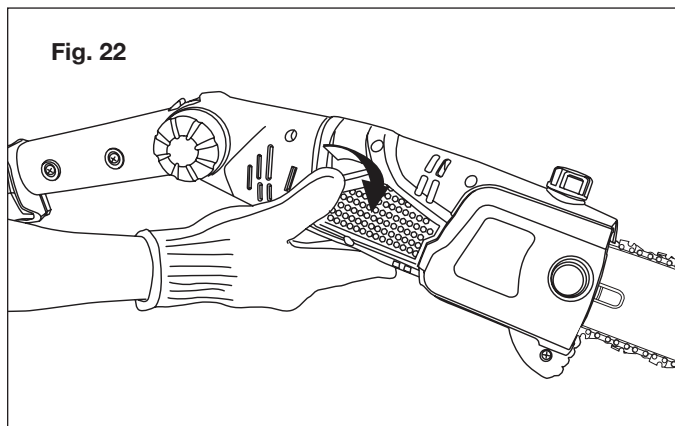

Fig. 22
3. Adjust the head to the desired position (Fig. 22).